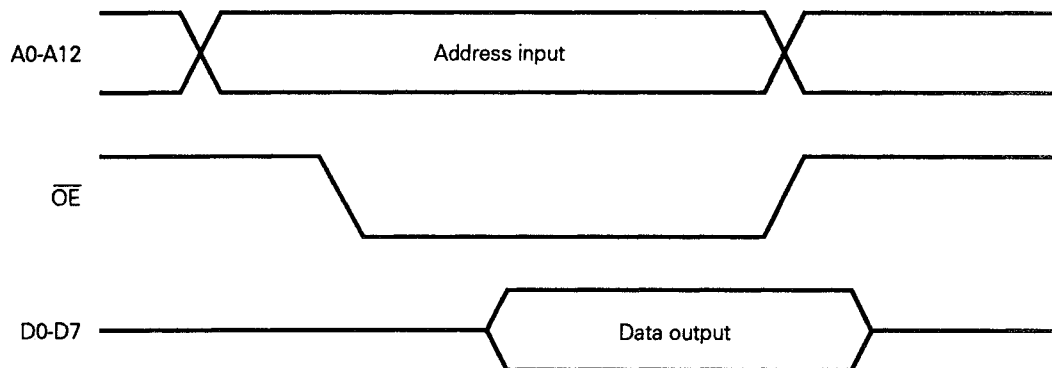

Fig. 3-2 PROM Read Timing
- (1) Process the unused pins in accordance with the description in Pin Configuration.
- (2) Supply +5 V to the VDD pin and VPP pin, and +12.5 V to the PROG pin.
- (3) Input the address of the data to be read to the A0 to A12 pins.
- (4) Read mode.
- (5) Data is output to the D0 to D7 pins.
Fig. 3-2 shows the timing for this sequence from steps (2) to (5).